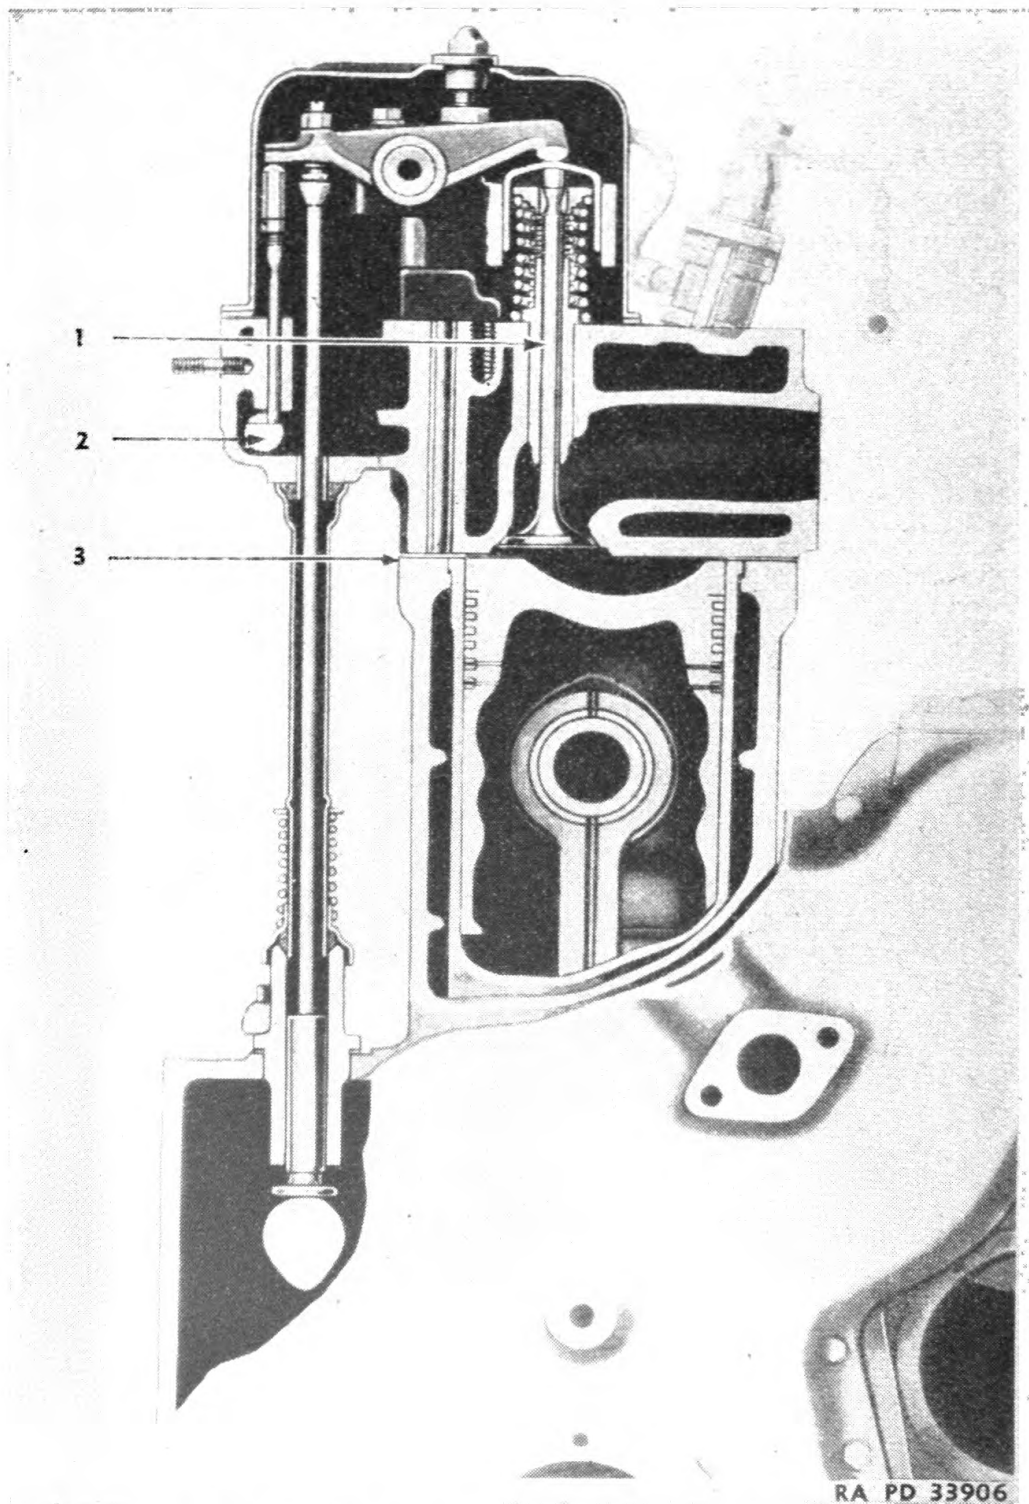

FIGURE 17.—Cross section of cylinder head and rocker arm.
19. General.—*a.* The two individually removable cylinder heads (fig. 17) are equipped with pressure lubricated overhead valve mechanisms. A compression release mechanism (2) is used to hold the exhaust valves open while cranking the Diesel engine to relieve the initial starting load on the starting engine.
b. Valve stem bushings (1) are replaceable.
c. Copper asbestos gaskets (3) are used between the heads and the cylinder block.